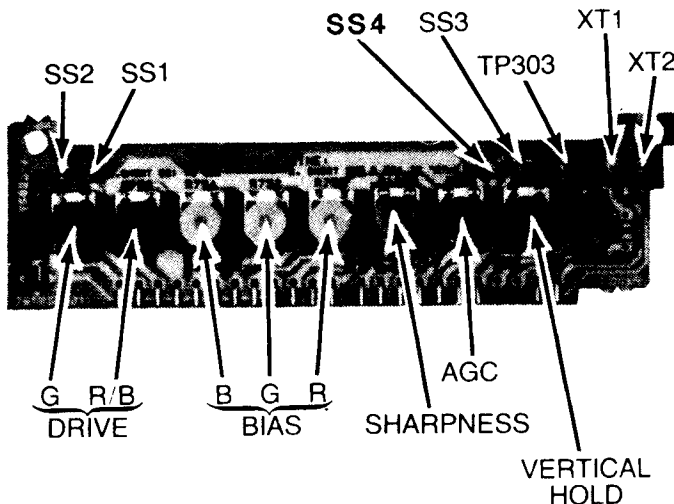

Fig. B8-1 Service Line/White Raster/Test Stake Location
Service Line (Fig. B8-1)
3. Locate stakes labeled XT1 and XT2 on the PW RC (rear control) circuit board (Fig. B8-1) and schematic (zone 23-G).